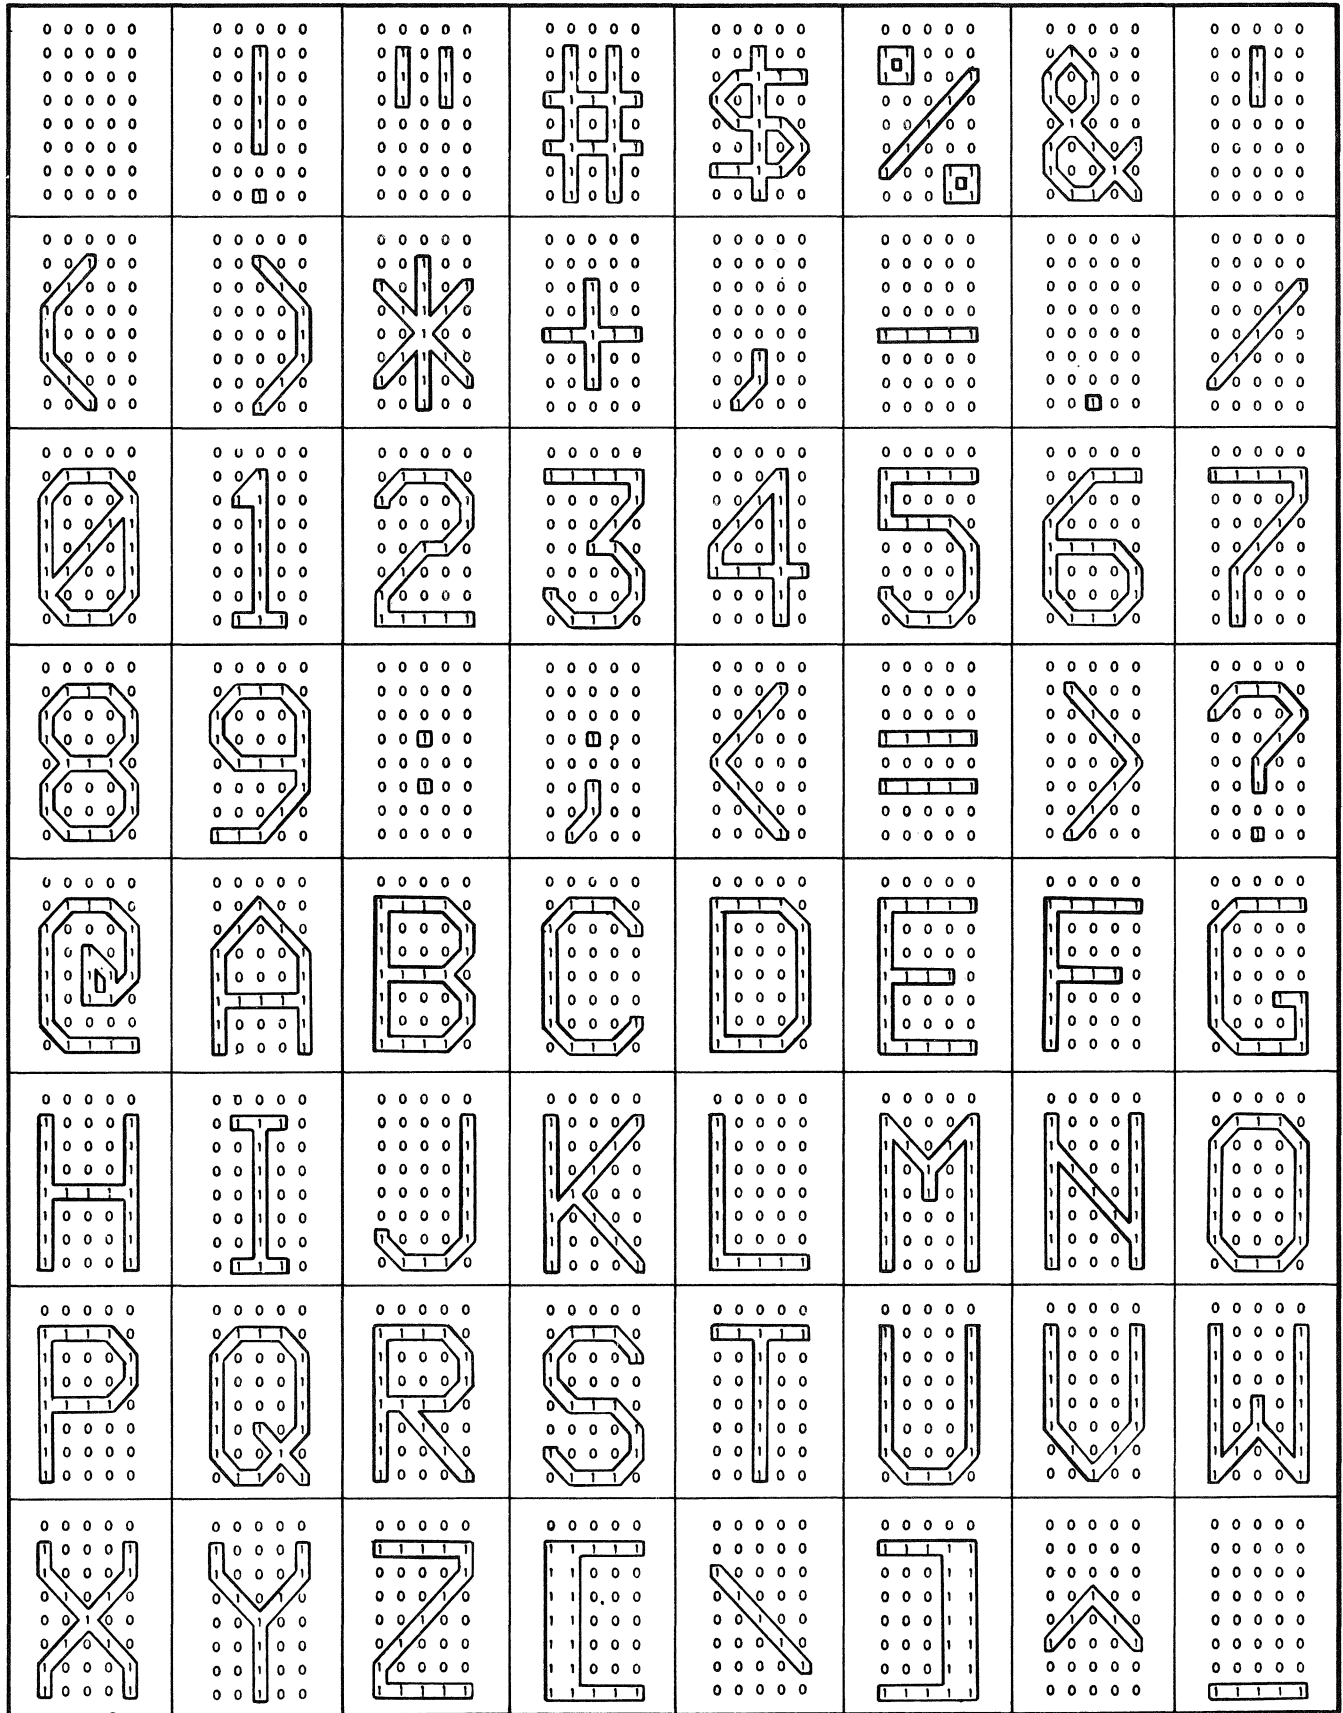

Fig. 2-1. Written Character Set.
**Character Matrix.** A five-by-seven dot pattern which creates characters by lighting specific combinations of the dots. Dot position is determined by modifying the X and/or Y position of the deflection beam through the pattern shown in Fig. 2-1. The matrix stops long enough in each position to turn the beam on to store a dot during character writing, or to display a non-storing dot during Alpha Mode cursor writing. The bottom-left dot in the matrix is determined by the X and Y register contents (address). However, the X and Y deviation from this point is independent of the register address. Matrix size is approximately 2.7 mm high x 1.8 mm wide (0.1 x 0.07 inch).
**Character Writing.** The Terminal has writing capability for 63 ASCII characters as shown in Fig. 2-1. Character writing time is approximately 0.8 ms.